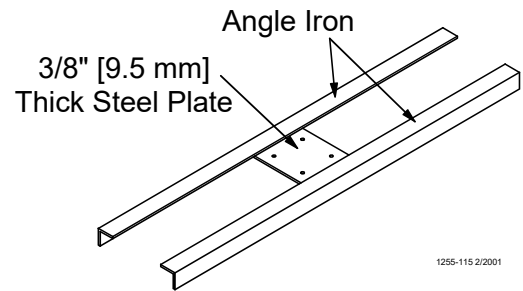

Figure 5. Optional Power Lift Winch Support Detail
1. Bolt the Power Winch, fully assembled, to the Power Lift Winch Support, either a 2" x 8" [50x200 mm] board that will span at least 3 rafters or a 3/8" [9.5 mm] thick steel plate welded to two pieces angle iron that are each long enough to span at least 2 rafters, using 5/16-18 hardware supplied in the Hardware Package. The brake mechanism will extend toward one side. See **Figure 5**.